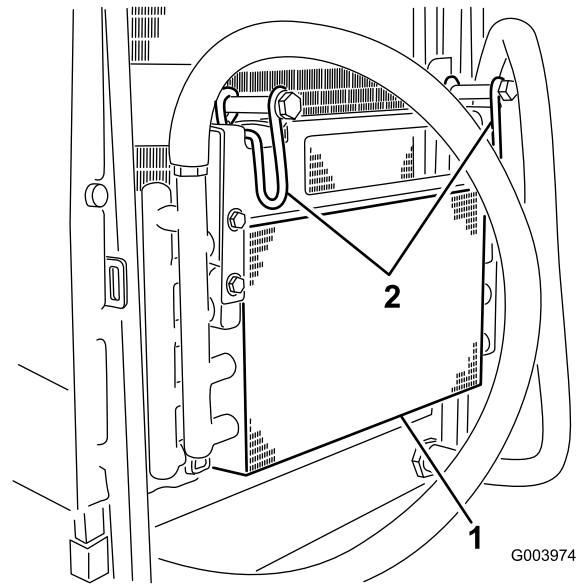

Figure 53
5. Pivot the latches inward to release the oil cooler (Figure 53).